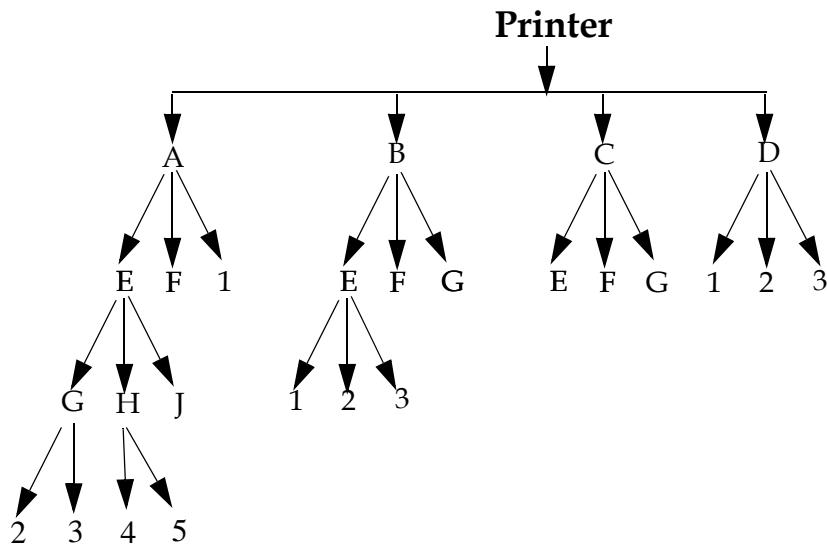

Figure 10-1: Graphical Representation of the Different Subassemblies and Parts
- An alphabet is assigned to the main assemblies of a printer and each sub assembly under the main assembly. See Figure 10-1 on page 10-3.
A natural number (1,2,3,...) is assigned to the stand alone parts (in ascending order) through out the breakdown of main assemblies. See Figure 10-1.